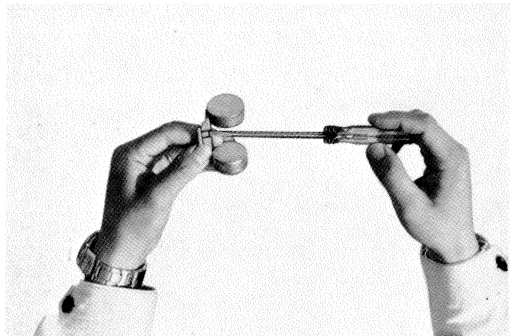

Fig.7-4-2 Adjusting float tongue
4. Make adjustments to the height by bending the portion a (contacting area of needle valve) in Fig. 7-4-2 so that the measured value of 3) will come within $24.25 \pm 1\text{mm}$.